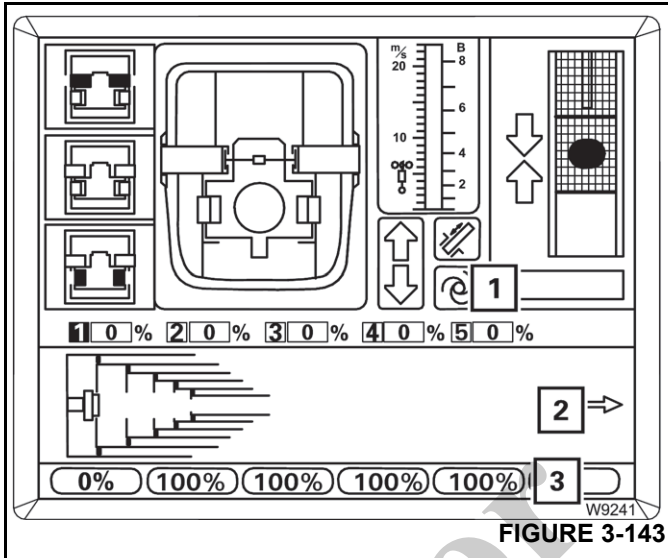

FIGURE 3-143
If the entered set values are not permissible, the values on the display (3) (Figure 3-143) turn red.